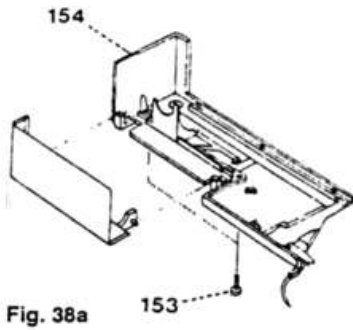

Fig. 38a
- Unscrew both screws 153 of bobbin thread monitor 154 (fig. 38a).